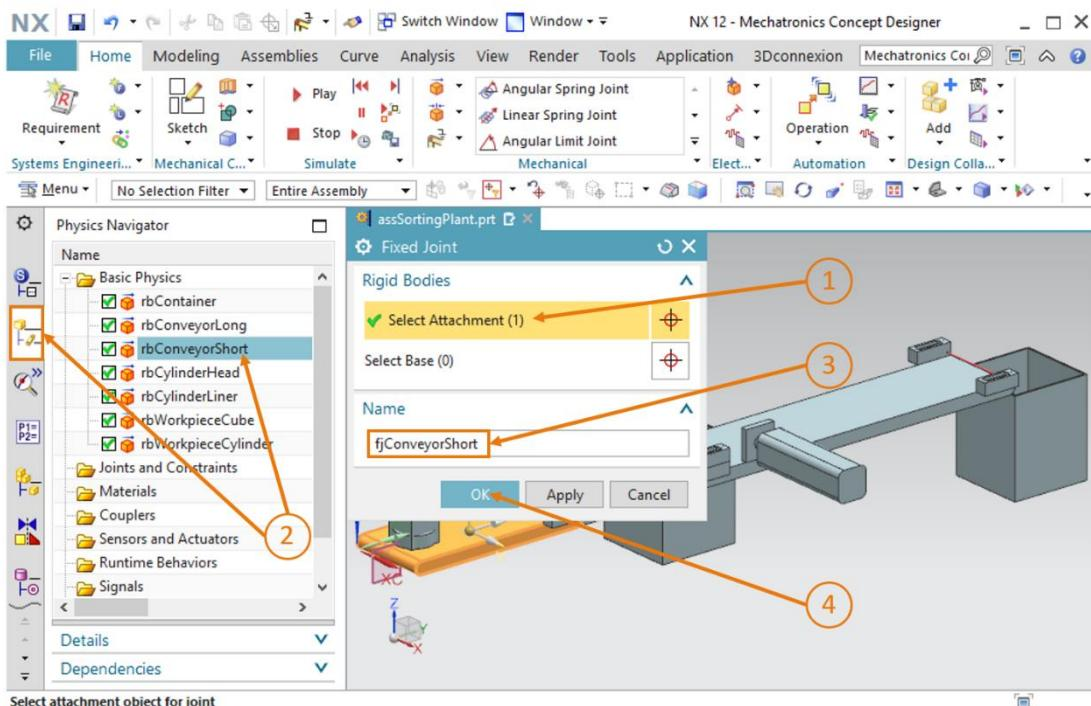

Figure 15: Creating a fixed joint in MCD – Selecting a rigid body and name
- The "Fixed Joint" window opens. At least one underlying rigid body that is fixed in space is required for this property. Click inside the "Rigid Bodies" group and select the "**Select Attachment**" button (see Figure 15, step 1). Navigate in the Resource bar to the "**Physics**
Navigator" tab and select the "rbConveyorShort" rigid body you created in Chapter 7.2 (see Figure 15, step 2). Then assign the name "fjConveyorShort" for this new property (see Figure 15, step 3) and confirm your settings by clicking the "**OK**" button (see Figure 15, step 4). The prefix "fj" stands for "fixed joint".